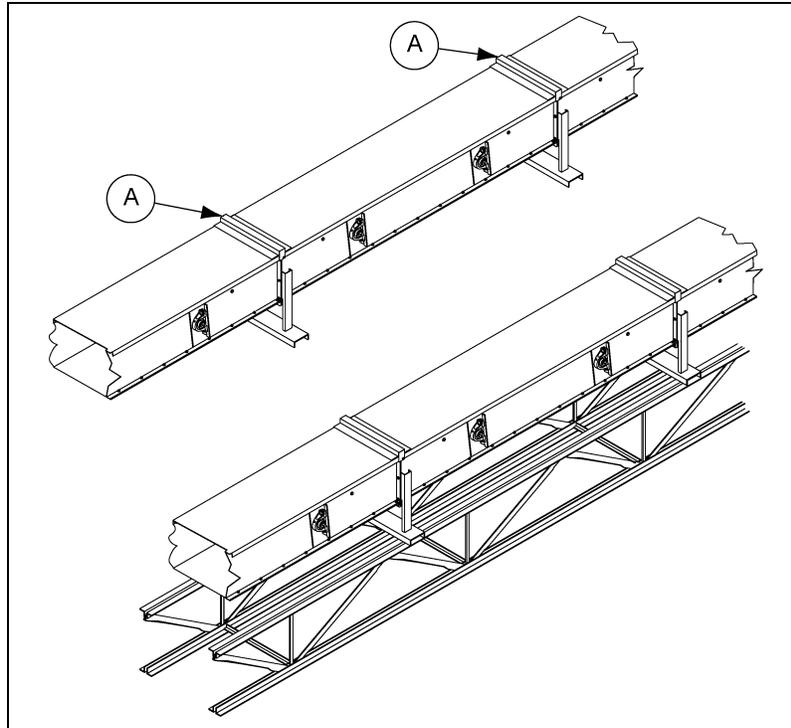

Figure 4A Conveyor Supporting Structures
9. The conveyors are not designed to be self-supporting when erected. Supporting structures are required for horizontal and vertical support. *(See Figure 4A on Page 24.)*
1. Figure 4A illustrates the general type of acceptable support structure.
2. Conveyor must be supported at each section joint (A). Refer to the certified drawing for location and attachment of the short section.